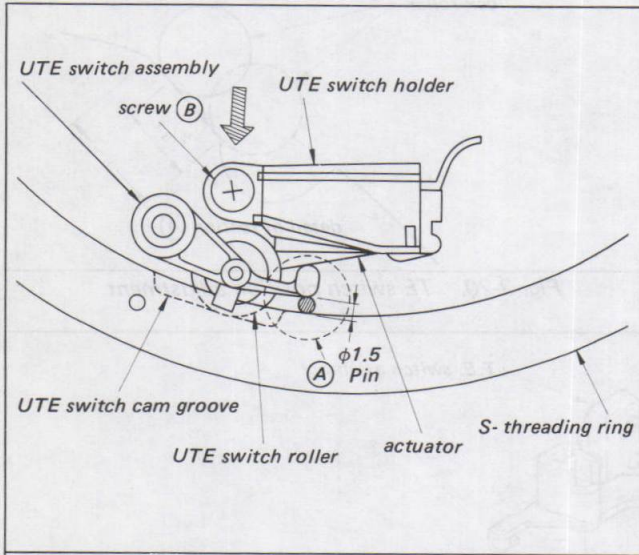
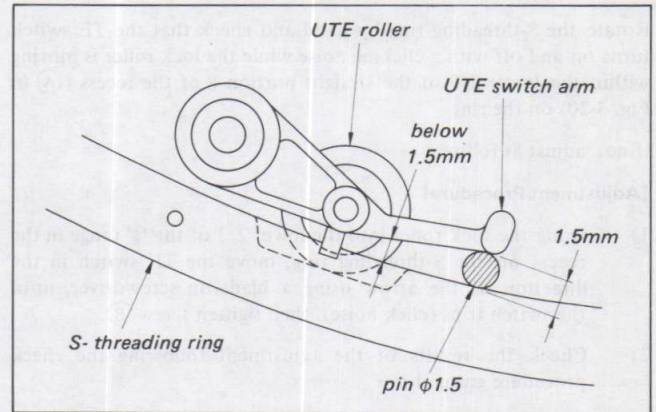

Fig. 3-22. U. T. E switch position adjustment
Fig. 3-24.
Rotate the S-threading ring by hand. Verify that the switch trips when a pin of $\phi 1.5$ is inserted at Section (A) in Fig. 3-22 after the UTE switch arm roller assembly has dropped into the UTE switch cam groove. Verify that the switch does not trip when a pin of $\phi 0.6$ is inserted.
Caution: Insert the $\phi 1.5$ and 0.6 pins in the positions shown in Fig. 3-22. (If the pins are inserted too close to the UTE roller side as shown in Fig. 3-24, the clearance inside will be less than 1.5 mm, even though it is 1.5 mm at the entrance, because of the switch construction.)